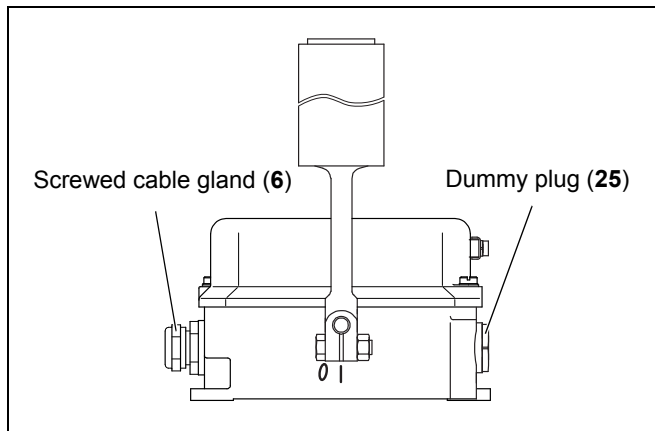

Fig. 5-1: Scope of delivery
The belt misalignment switches are delivered ready to operate. The screws for mechanical fastening are not included in the scope of delivery. One screwed cable gland (6) and one dummy plug (25) are included in the scope of delivery (see fig. 5-1).